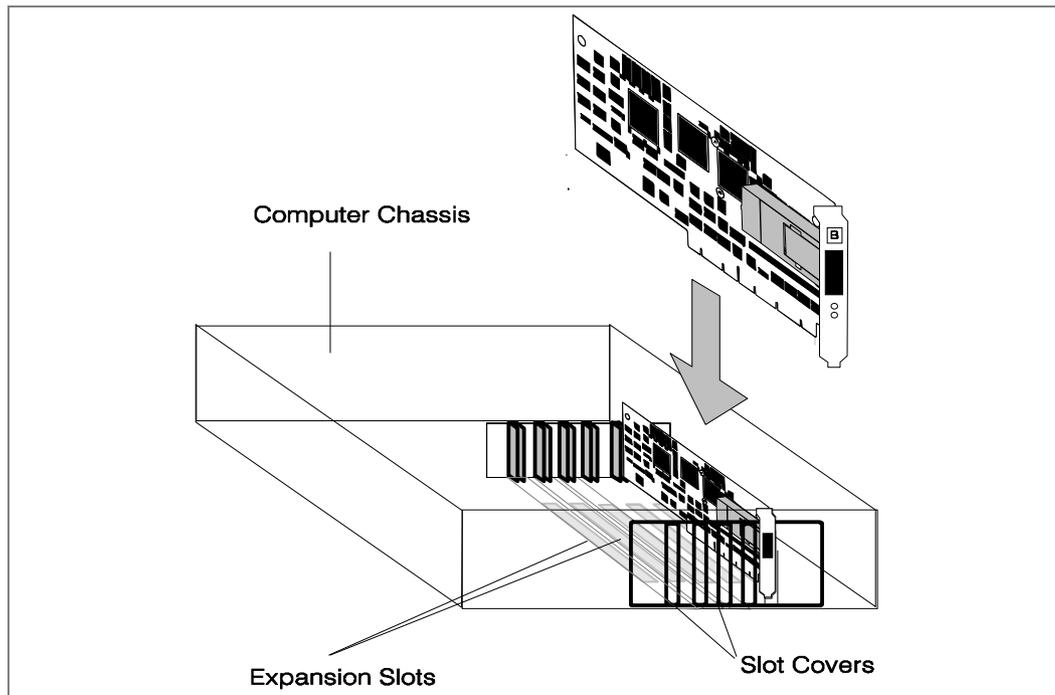

Figure 6. Installation of an adapter in an expansion slot
**Note: Make sure that the adapter fits properly into its expansion slot connector at the base of the computer's chassis. Then press down the adapter vertically until it snaps into place. Refer to figure 6.**